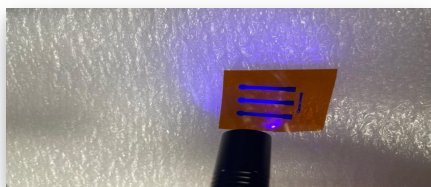

Figure 5
c. Inspect the image with a UV pen (shown in *figure 5*).